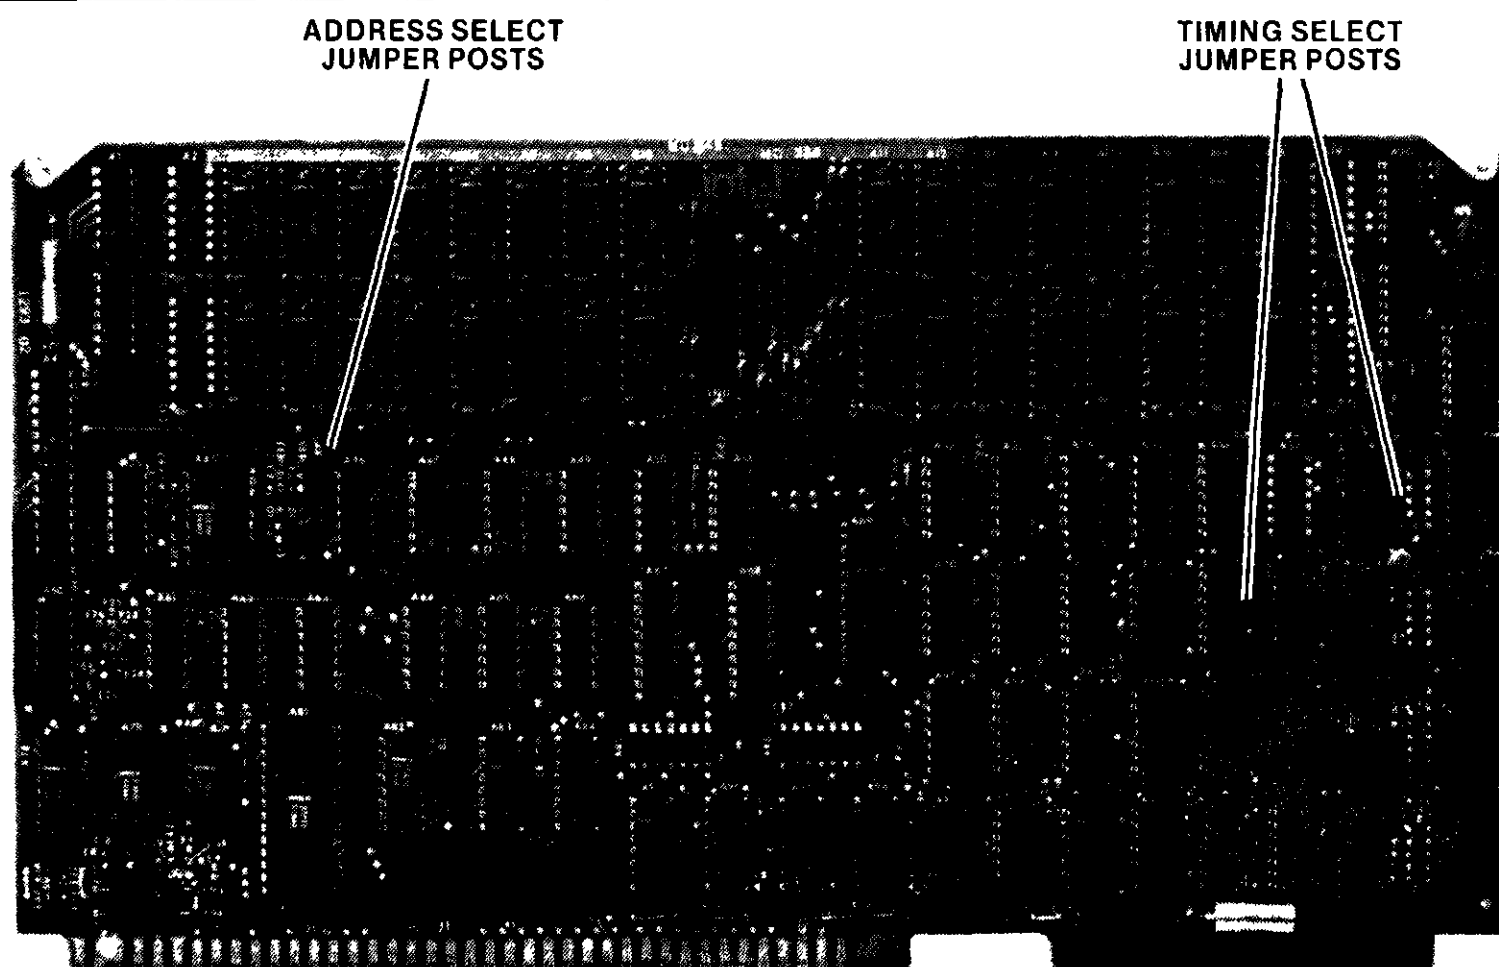

Figure 4-5. iSBC®-032 32K RAM Board Jumper Post Locations
1. Refer to figure 4-5 and configure jumper post shorting plugs as follows to select proper address block and timing: